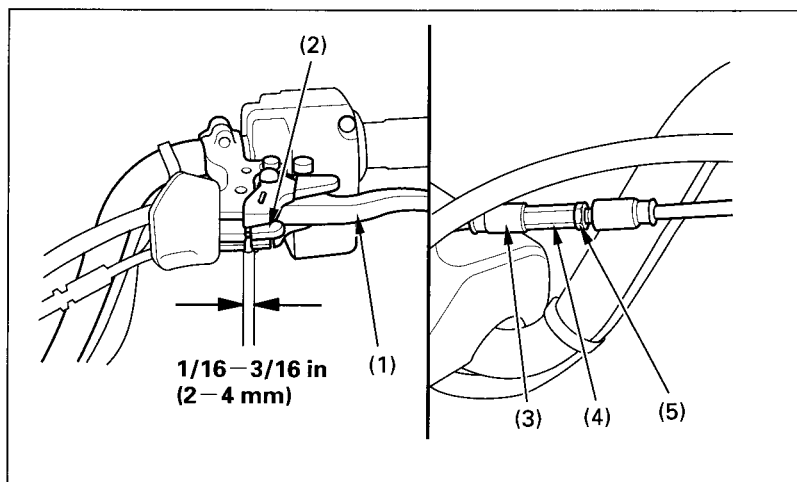

Fig. 4-18
Measure the reverse assist lever (2) free play. Free play, measured at the lever (2) end near the cable (Fig. 4-18), should be approximately: